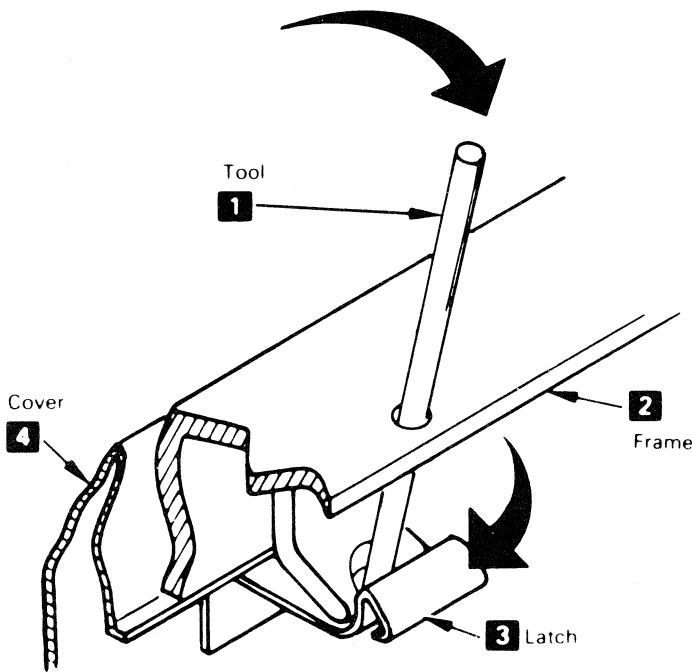

Figure 1. Front and Rear Cover Removal
- 2. Refer to Figure 1. To Remove front and rear covers **4**, insert a screwdriver **1** into the holes in the top of front and rear frames **2**, apply sidewise and slight downward pressure, to unhook the two latch springs **3** (one at a time) and then pull the cover outward.